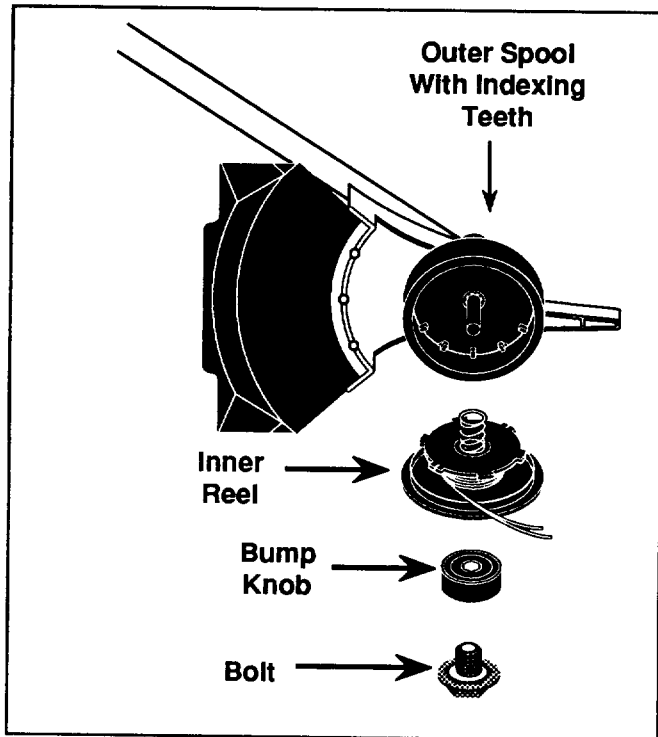

Fig. 13
2. Hold the outer spool with one hand and unscrew the bolt **clockwise** (Fig. 13). Remove the bolt and knob. Make sure the bolt inside the Bump Knob moves freely. Replace the Bump Knob if it is damaged.
3. Remove the inner reel (Fig. 13).
4. Use a clean cloth to clean the inner surface of the outer spool (Fig. 13).
5. Check the indexing teeth on the inner reel and outer spool for wear (Fig. 13).
2. Secure the line spool and Bump knob in place with the bolt. Tighten the bolt **counterclockwise** (Fig. 13).